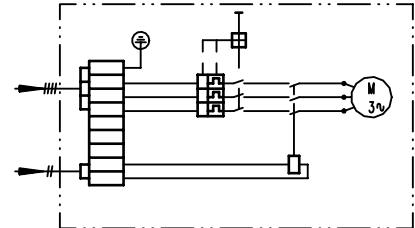

Figure 9
- Figure 9 shows a common type of wiring;
- 06 = Control voltage for turning the vacuum on / off - also refer to fig. 9